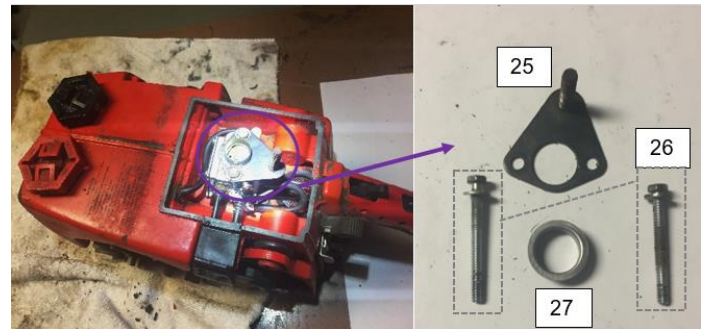

Figure 14: Carburetor Top Disassembly
Step 10: Rotating the main assembly to its upright position, the carburetor is visible from where the air filter was removed. Use a 1/4in wrench to unscrew the two Carburetor Bolts (26) and manually remove the Carburetor Seal (27), Carburetor Bolts, and Carburetor Top Plate (25). (Figure 14)
Step 11: Manually unhook the two throttle connectors from the Carburetor (28), and use a Flathead Screwdriver to disconnect the fuel wires from the Carburetor. Remove the Carburetor. (Figure 14)